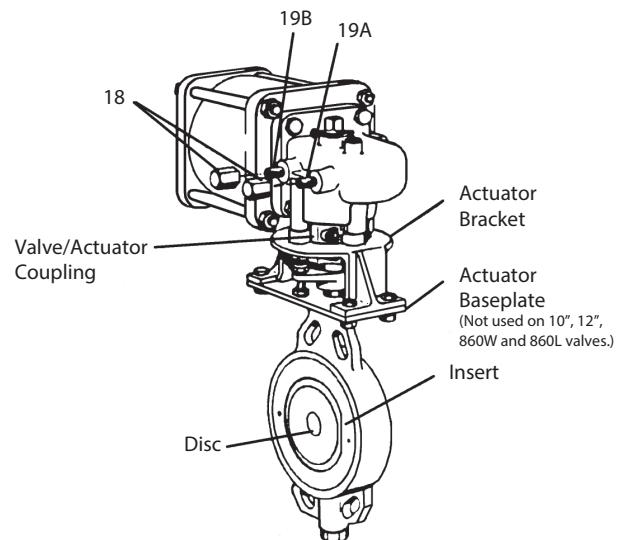

Figure 16
4. Tighten the two nuts (15) and two screws (H6) holding the ratchet plate.
7.4 Setting Stops on ST and ST-MS Pneumatic Actuators (Figure 16)